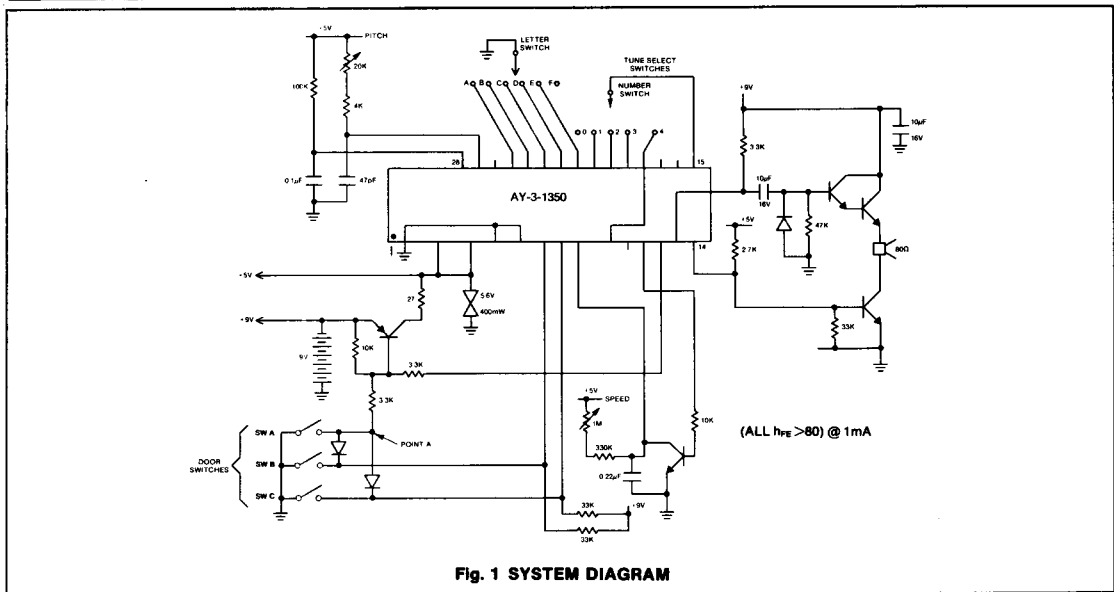
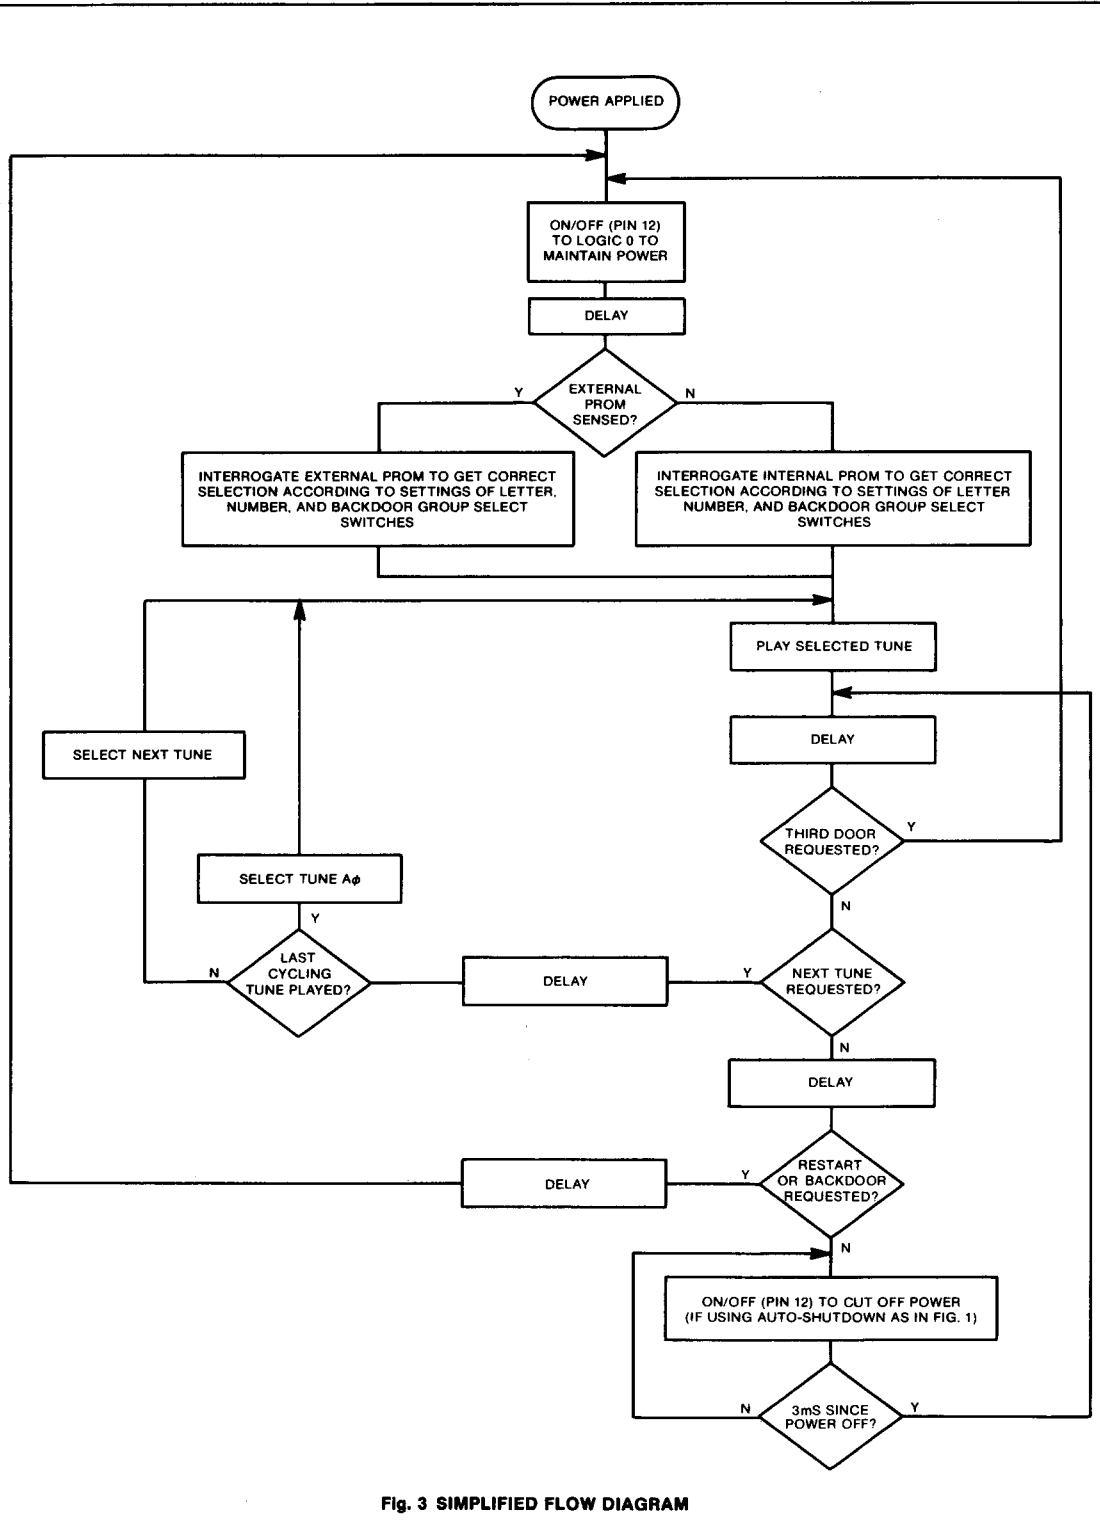

Fig. 1 SYSTEM DIAGRAM
Fig. 3 SIMPLIFIED FLOW DIAGRAM
There are many ways to connect the standard device depending on the exact application. Figure 1 shows just one implementation of the device in a doorchime. This circuit gives access to all 25 tunes from switch A and one of 5 tunes from switch B as well as the descending active chime from switch C. The tune selected for switch B follows the tunes list according to the setting of the two tune select switches (A—E and 0—4). The tune selected from switch C in Figure 1 is one of the five tunes A0 through E0 depending on the setting of the letter switch. For example, with the letter switch set at E and the number switch set at 4, the tunes available will be:
There is virtually no power consumption in the standby condition (external transistor leakages only). When any door switch is activated the circuit powers up, plays a tune, and then automatically powers down again to conserve the battery, even if the operator keeps his finger on the switch to the end of the tune. He must release it and re-press to play again with the circuit in Figure 1. Activating any of the door switches will pull point A to ground
Figure 1 shows only a typical one-chip implementation. Further options come from use of different switching and/or from use of the next tune facilities built into the chip. These will now be considered in turn.
In Figure 1 the Switch C Group Select pin (16) is not connected, and one of the five tunes (A0 through E0) will play if switch C is activated. Other number groups can be chosen by connecting the Switch C Group Select pin as follows:
Using the power-up circuit of Figure 1, the AY-3-1350 will have +5V applied and be latched within a few microseconds (dependant upon external components) from any bell-push closing. The device starts to operate when the RESET pin reaches logic 1 (about 10ms with components shown) but in fact the tune select switches are not interrogated until approximately 6ms later. The total is sufficient for most bell-pushes to complete any bounce period and for a firm selection of tunes to be made.
At the end of tune play the circuit of Figure 1 powers down because ON/OFF (pin 12) is raised to a logic 1. This simplified flow diagram in Figure 3 shows that before the power down there is a test for connection between NEXT TUNE (pin 10) then RESTART (pin 17) with TUNeselect 4 (pin 9). At this time NEXT TUNE (pin 10) then RESTART (pin 17), which are normally at logic 1, output a logic 0. This is looked for at input TUNeselect 4 (pin 9). If neither is found the power down system is reached as in Figure 1.
A RESTART (pin 17)—TUNeselect 4 (pin 9) connection at the moment of test at the end of a tune causes the same selected tune to be played again. Figure 3 shows that in this case the tune sensing mechanism is passed through once more so the tune would be different the second time if the switches were altered while the first tune was playing.